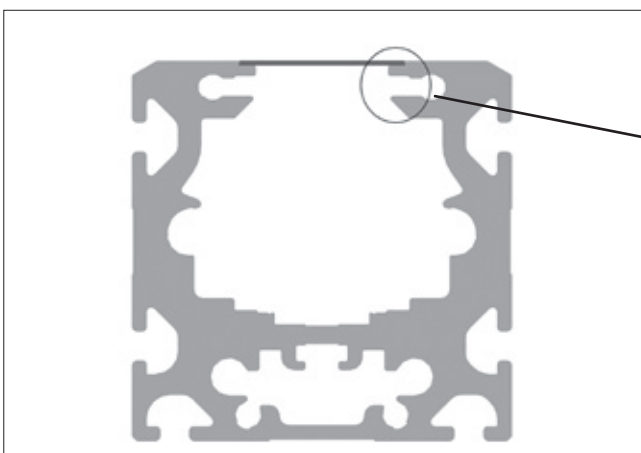

Figure 4.16 __ Cover strip cross section
5. Insert new cover strip. The cover strip has a trapezoidal cross-section. When fitting the new cover strip, make sure that the wide area is below (Figure 4.16). Under moderate pressure with the hand or a smooth, not sharp-edged tool, the cover strip snaps into the groove and flushes to the upper profile edge.